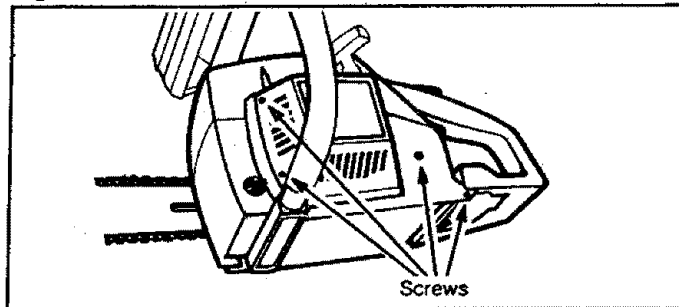

Figure 52
## STARTER ROPE REPLACEMENT (Fig. 52, 53, 54, 55, 56 & 57)
- Remove four screws shown in the Figure 52 (note that one is located *underneath* the rear handle). Then, remove the screw located on the rear of the engine housing below the ON/STOP switch.